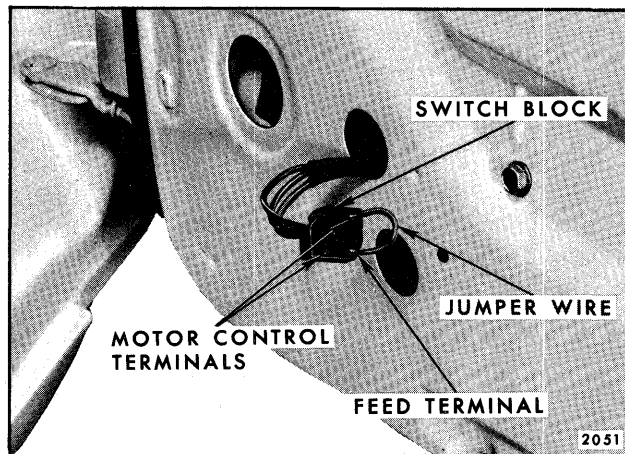

Fig. 10-10-Checking Window Control Switch
3. If tester lights, insert one end of a No. 12 gauge jumper wire to the switch feed terminal and the other end to one of the motor lead terminals in the switch block. Repeat this check on the remaining motor lead terminal (Fig. 10-10).
- Insert one end of a No. 12 gauge jumper wire to the switch feed terminal and the other end to one of the motor lead terminals in the switch block (Fig. 10-10).